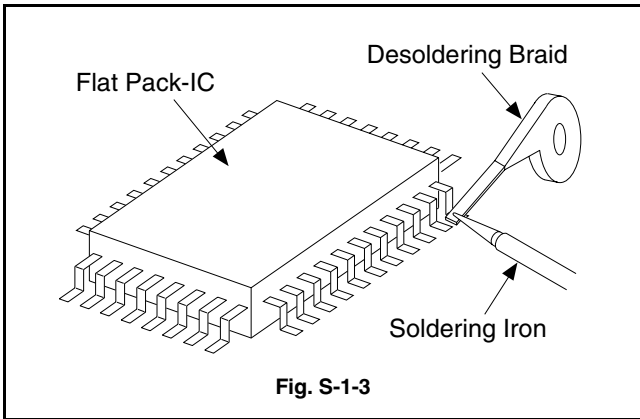

Fig. S-1-3
- a. Using desoldering braid, remove the solder from all pins of the Flat Pack - IC. When you use solder flux which is applied to all pins of the Flat Pack - IC, you can remove it easily. (Fig. S-1-3)